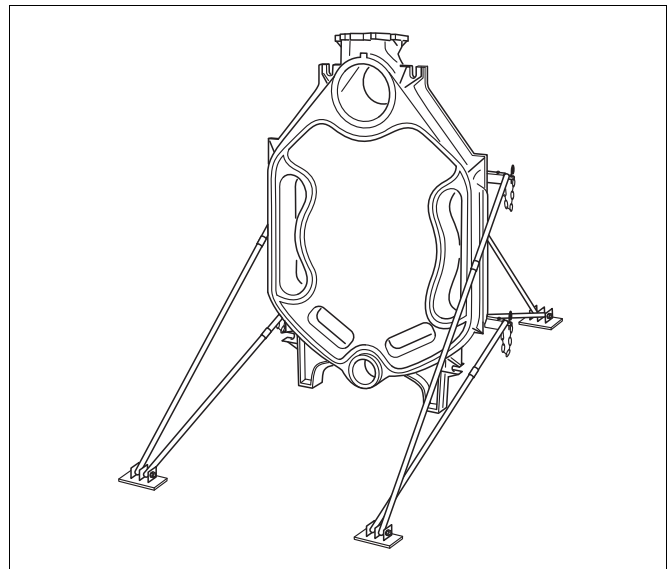
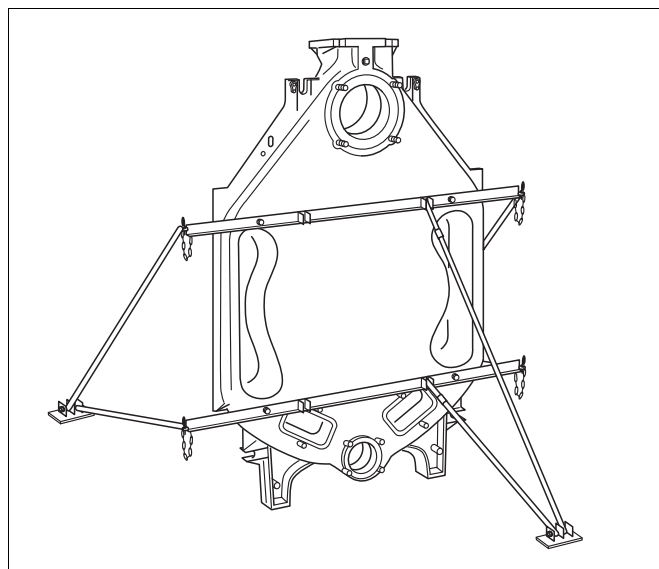

Fig. 9 Rear section with fitted installation aid
Fig. 11 Fasten installation aid
- ▶ Prevent the boiler sections from falling over using the installation aid (accessory) First screw the rear section firmly onto the installation aid (Fig. 9, page 18).
- Set up the rear section and secure with the installation aid to prevent it from tipping (→ Fig. 11 and Fig. 9 and separate installation instructions for installation aid).